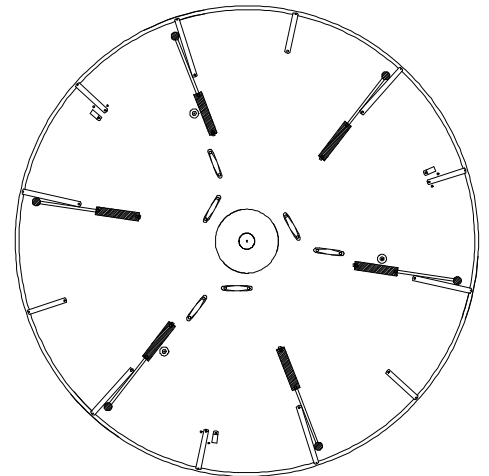

Figure 1
5. Install the six Make-up Guides on the Loop Disk as shown in Figure 1.
5. Install the six Make-Up Guides on the Loop Disk as shown in Figure 1, page 3.